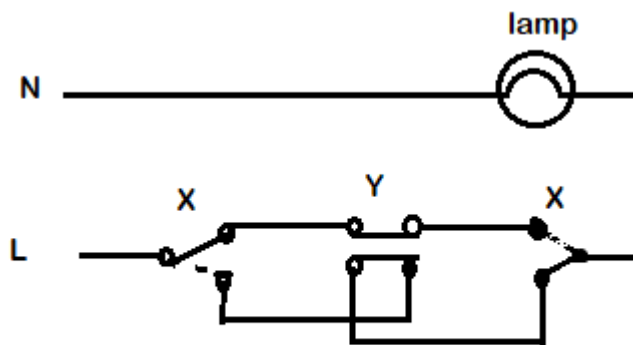

Figure 1
2. Figure 1 shows an installation diagram of a lighting circuit installed in a house to control a lamp. Name of accessories label X and Y respectively. (2 marks)